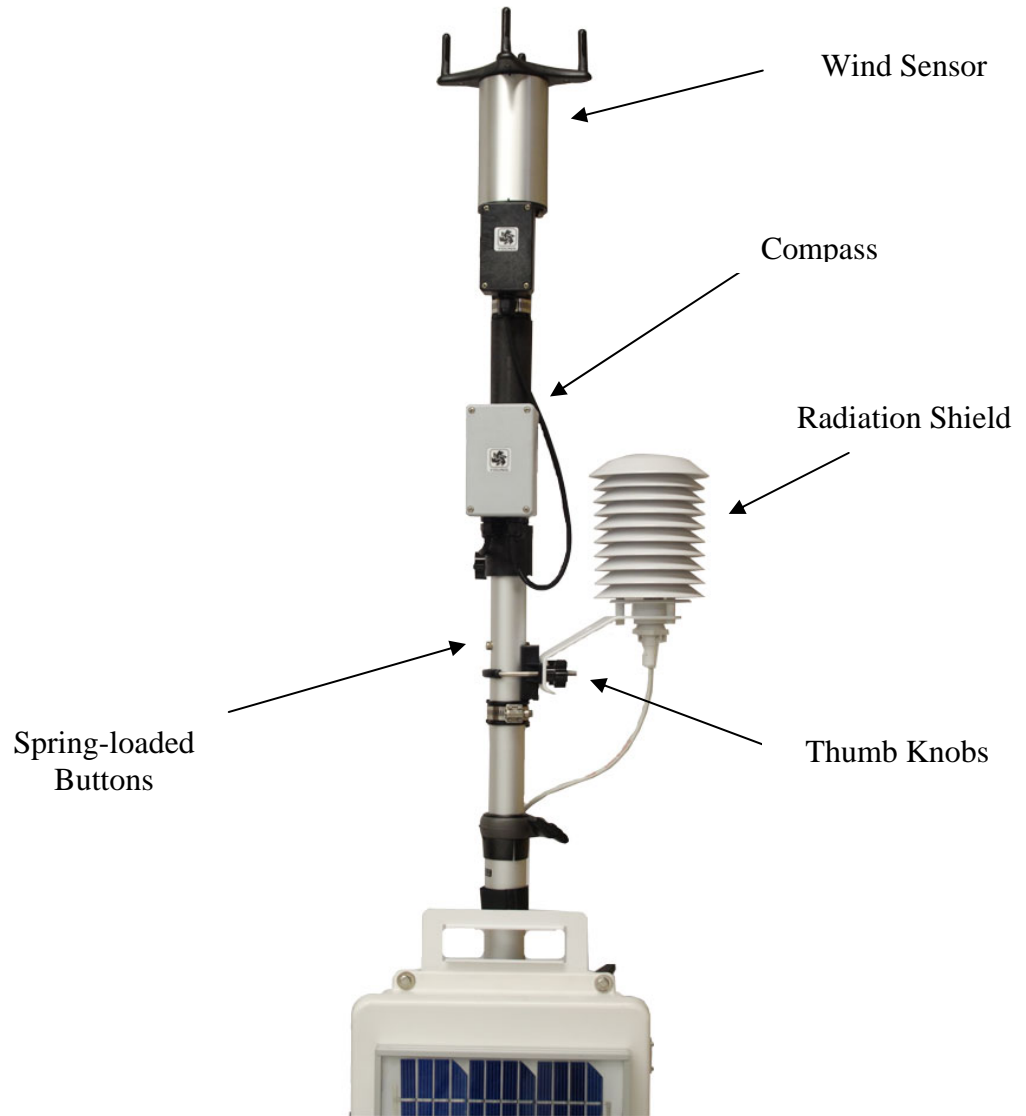

Figure 2. MetRanger II Components
**Step 4** – Remove the Wind Speed and Direction assembly. Slide its mounting post into the top of the main tripod mast until both buttons click into its lowest position. Both front and back spring-loaded buttons should protrude out of the lowest main mast mounting holes. There is a black mast coupler attached to this assembly which needs to be slid over the main mast, when it is in place tighten the knob of the coupler. **Note: Do not remove the wind sensor from the electronic compass, which is mounted below it on the same post. The alignment of these two sensors is critical in obtaining the correct wind direction.** (See Figure 2)